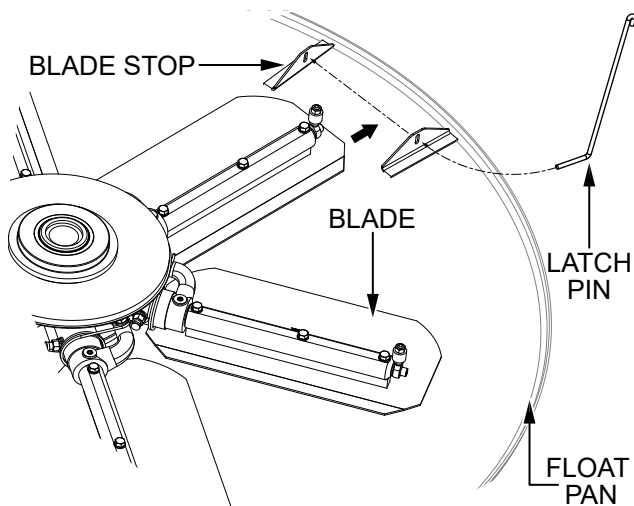

Figure 28. Float Pan Installation (Latch Pins)
2. Lift the trowel just enough to slide a **float pan** under the **blades**. Lower the finisher onto the pan with the blades between the **blade stops** (Figure 28).
3. Route a **latch pin** through the holes in the blade stops as shown in Figure 28.